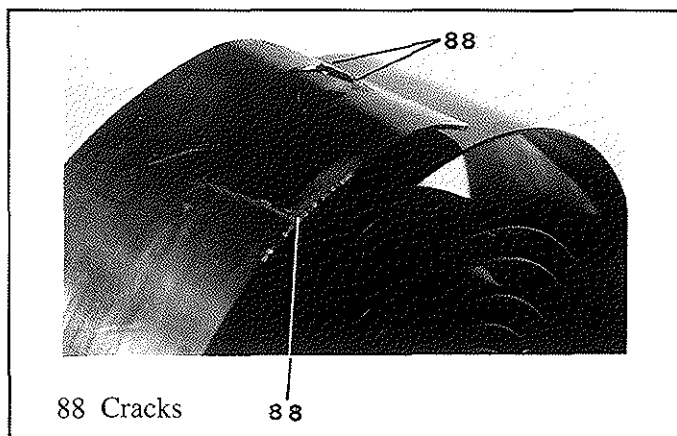

Figure 10.4. Original spring.
*NOTE: See Figure 10.4 for the condition of the spring removed from our movement. Besides the cracks and tears around the hole, the spring was barrel bound. These conditions were not visible while in the barrel. The spring was replaced. (See list of suppliers in an upcoming article in this series.)*